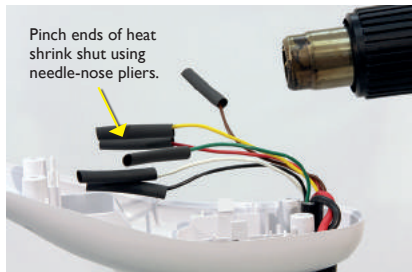
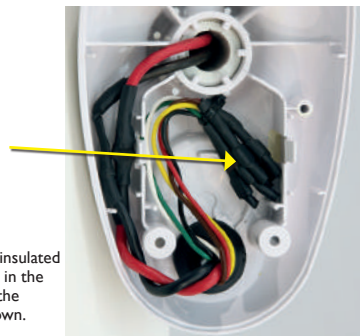

FIGURE 20 Insulate and seal six **AutoPilot** wires on Riptide SP motors with supplied heat shrink.
FIGURE 21 Place insulated **AutoPilot** wires in the bottom center of the control box as shown.
- b. For **Riptide SP motors**: Apply heat shrink insulation supplied in bag assembly to the ends of all six loose **AutoPilot** connectors as shown (Figure 20). Use a zip tie to bundle connectors together. Trim the zip tie and place connector bundle in the middle of the control box as shown. (Figure 21)